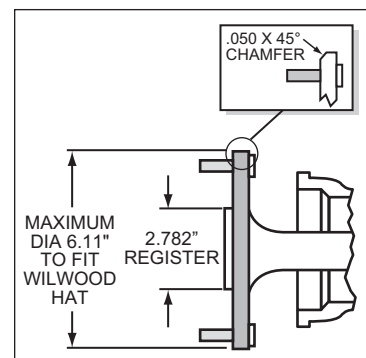

Figure 3. Axle Flange Maximum Dimension
- Maximum axle flange diameter must be no larger than 6.61" w/.050" x 45° chamfer, figure 3.